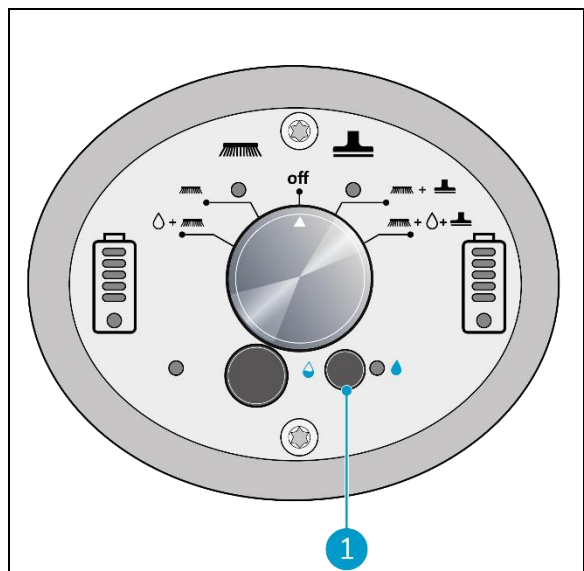

Figure 18
1. Turn on the ECO mode by pushing the ECO button (Figure 18, pos 1).